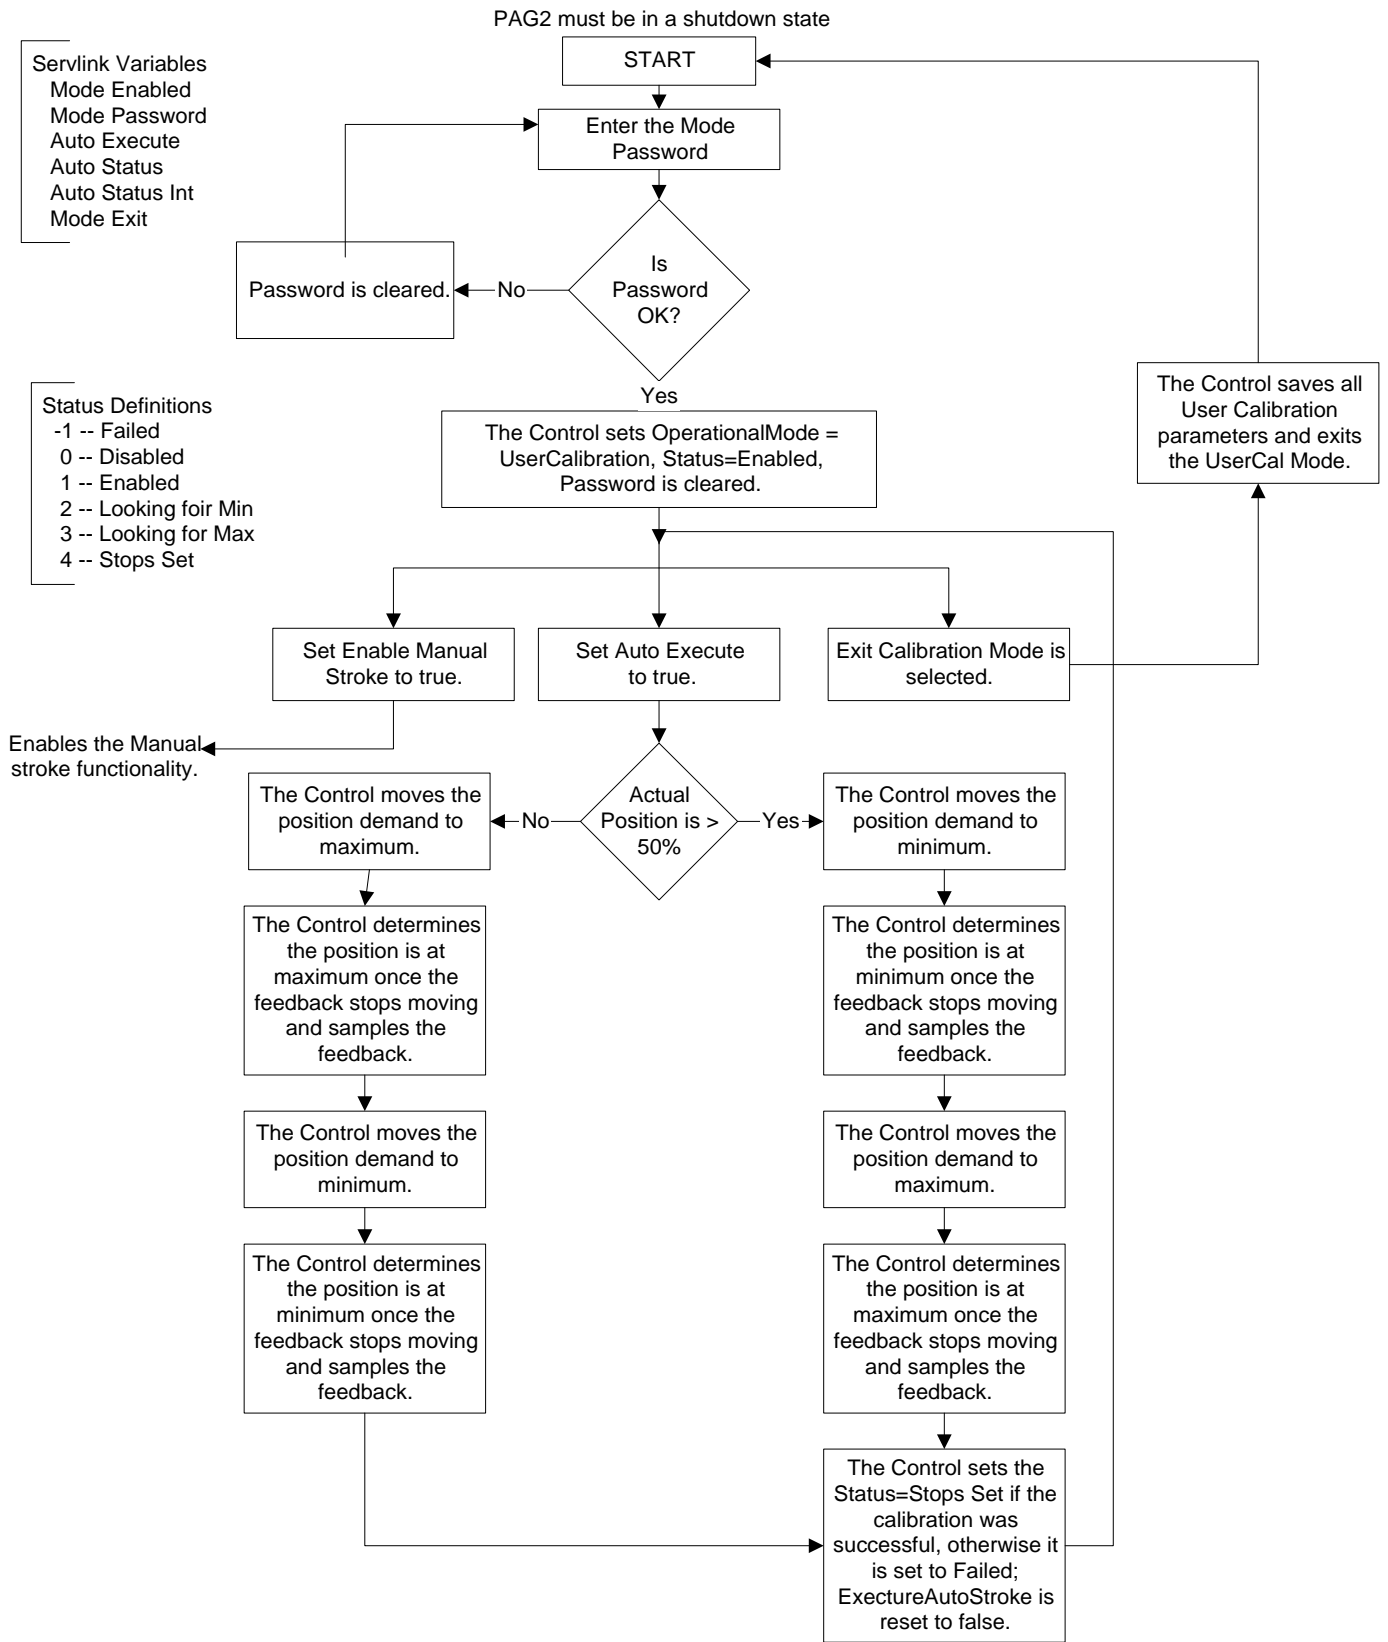

Figure 9-8. Auto Stroke Mode Flowchart
To enter the User Calibration mode, the unit must be shut down and a password must be entered. For an overview of the User Calibration, refer to the attached flowcharts (Figures 9-8 and 9-9). Refer to Figure 9-7 for a visual of the parameters available in the Service Tool.
6. Select the desired calibration mode. There are 2 modes, a manual stroking mode and an automatic mode. Refer to Figures 9-8 and 9-9. If the Auto mode is selected, steps 7 through 11 will occur automatically without any user input required. Auto Mode is enabled by setting "Auto Execute" to true.